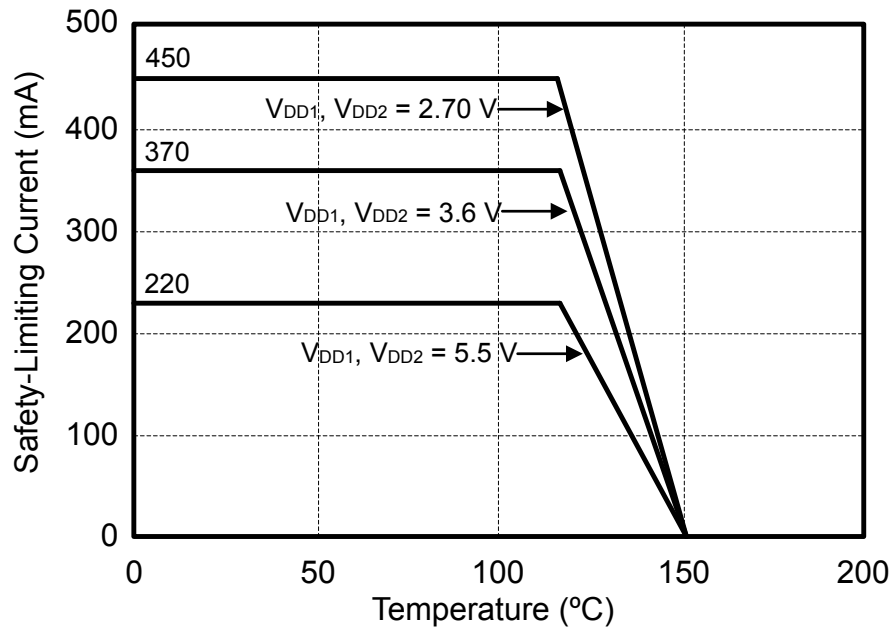
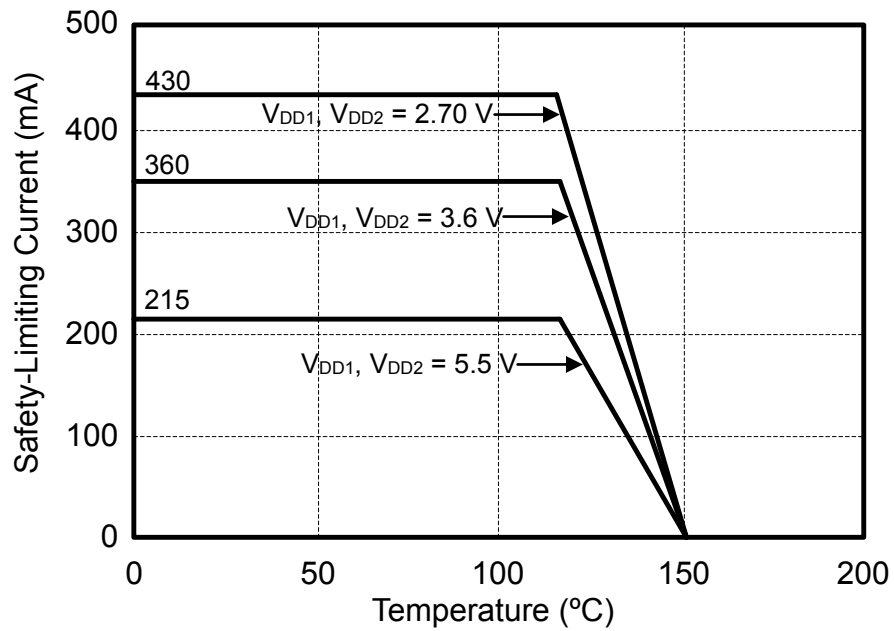

Figure 4.3. (WB SOIC-16) Thermal Derating Curve, Dependence of Safety Limiting Values with Case Temperature per VDE 0884-10
Figure 4.4. (NB SOIC-16, QSOP-16) Thermal Derating Curve, Dependence of Safety Limiting Values with Case Temperature per VDE 0884-10
- Maximum value allowed in the event of a failure; also see the thermal derating curve in [Figure 4.3 \(WB SOIC-16\) Thermal Derating Curve, Dependence of Safety Limiting Values with Case Temperature per VDE 0884-10 on page 25](#) and [Figure 4.4 \(NB SOIC-16, QSOP-16\) Thermal Derating Curve, Dependence of Safety Limiting Values with Case Temperature per VDE 0884-10 on page 25](#).